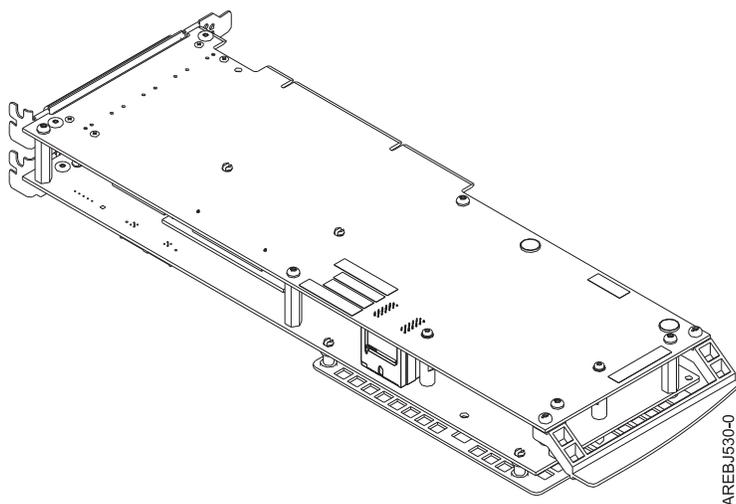

Figure 28. 572F/575C card set adapter
2. Place the 572F/575C card set adapter on an ESD protective surface and orient it as shown in Figure 28.